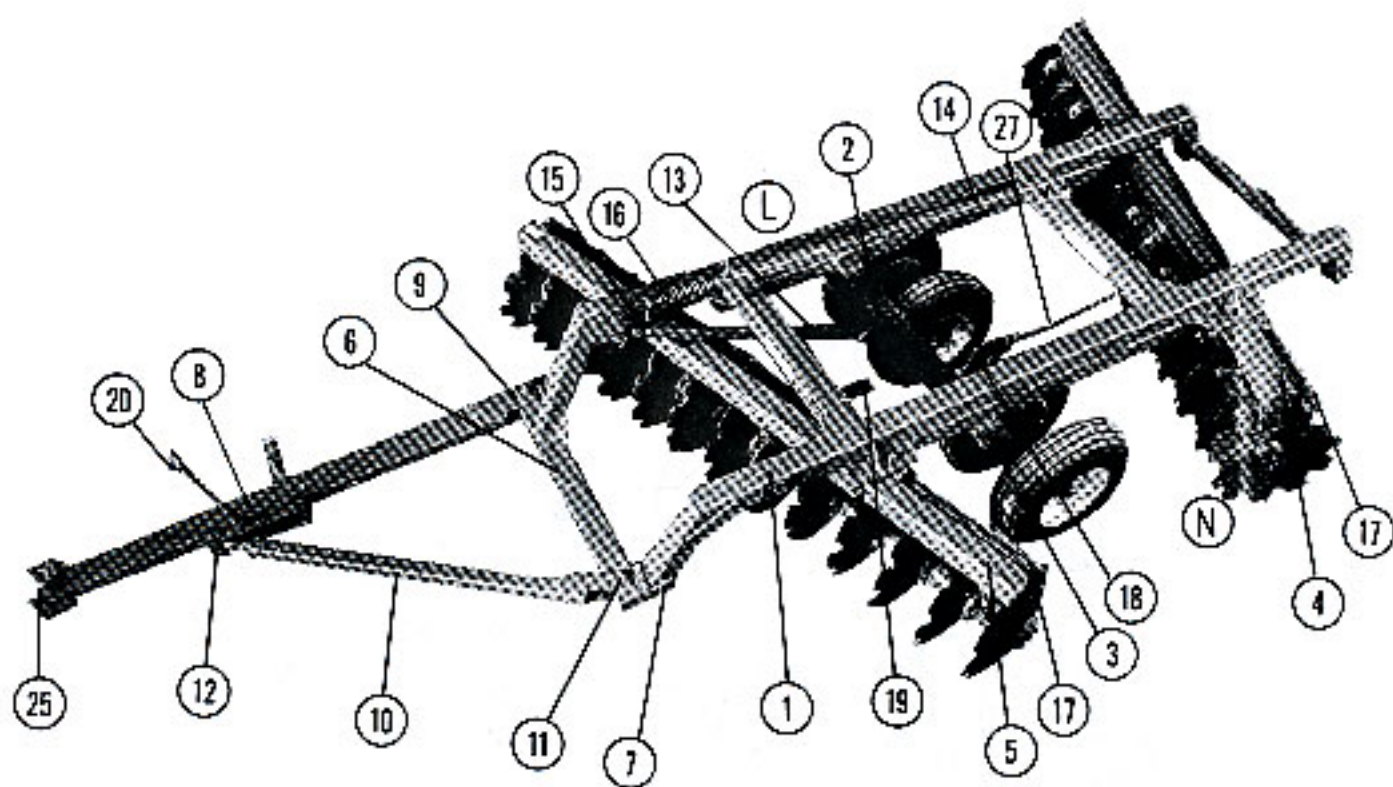

Figure 1
1. **To Install Wheel Carriage and Wheels:** (Refer to Figure 1) Place wheel carriage(2) under the main frame(1) and attach frame with pins(3). Install 5/16 x 2 lock bolts in pins and tighten lock nuts securely. Install wheels on to hubs with wheel bolts provided and tighten securely.
2. **To Attach Gang Bars to Frame:** (Refer to Figure 1) Bolt rear gang bar(4) to main frame(1) in center set of offsetting holes and in next-to-maximum angle with 3/8 x 3 1/2 bolts. Install leveling washers on top of angling plates on long side of disc(L). Install leveling washers between gang bar and angling plates on narrow side of disc(N). Bolt front gang bar(5) to main frame in next to maximum angle with 3/8 x 3 1/2 bolts. Install leveling washers same as rear gang.
3. **To Attach Hitch Bridle to Frame:** (Refer to Figure 1) Place bridle(8) at front of frame(1) and attach with pins(7). Install lock bolts and tighten nuts securely.
4. **To Attach Hitch Pole to Bridle:** (Refer to Figure 1) Attach main hitch pole(9) to bridle(8) at lead corner(9) with 1 x 6 bolt. Attach hitch side arm(10) to opposite side of bridle(11) with 1 x 6 bolt. Join hitch pole and side arm with 1" pin at adjustable eye bolt(12). Tighten all bolts securely.
5. **To Attach Fore-Aft Leveling Assembly:** (Refer to Figure 1) Install short tube(13) to wheel carriage with 1" pin. Install long tube(14) with 1" pin. Slide short fore-aft eye bolt(15) into bottom tube(13) (pinned to wheel carriage) and pin to bottom hole of bridle mast(6). Slide long fore-aft eye bolt c/w spring and washers into top tube(14) (attached to main frame) and pin to top hole of bridle mast(6).
6. **To Attach Scrapers:** (Refer to Figure 1) Attach scraper bars(17) to gang bars (4 & 5) with carriage bolts provided. Attach scrapers to scraper bar with clamps and bolts provided use care to adjust scrapers close to discs but not rubbing.
7. **To Double Wide Right and Left Hand Offsets:** (Refer to Double Wide drawing). Set together following regular instructions except Item No. 4 - to attach hitch pole to bridle - the hitch pole is attached to the opposite side from the lead corner and the side arm is attached to the lead corner with 1 x 6 bolt. Set left hand disc(1) stationary and pull right hand disc(1) along side leaving front gang of right hand disc behind front gang of left hand disc. Attach rear spreader bar(5) with pins. Attach front spreader bar(6) with pins. Join right hand main hitch pole to left hand main hitch pole(3) with 1 1/4" pin(7). Adjust swivel flapper with 1 x 6 bolt for proper direction(8).
- 1. Hydraulic Cylinder and Hoses:** (Refer to Figure 1) A standard 8" stroke double acting hydraulic cylinder is required to lift disc. Two 18 ft. hydraulic hoses are needed to allow full offsetting and turning without hose damage.
- 2. Angle Changing:** (Refer to Figure 1) To change angle. Raise disc on wheels unit discs are clear of ground. Remove bolt(21) and loosen the three remaining bolts. Slide gang bar forward or backward as desired. Replace bolt and tighten all bolts securely. For ordinary conditions set both front and rear gangs in next to maximum angle. Increase angles as required to suit conditions.
- 4. Offsetting The Hitch:** (Refer to Figure 1) This unit is designed to trail straight behind the tractor. Minimum side draft will be obtained when the hitch is in line with outside beam of main frame. If more adjustment is required screw hitch side arm eye bolt(12) to desired position, then retighten jamb nut to reduce pressure on eye bolt thread.
- A. Front to Rear:** (Refer to Figure 1) Width disc raised and hitch to tractor, adjust bottom fore-aft eye bolt(15) until main frame is level. Adjust fore-aft spring lock(16) until spring is snug. The top spring should be under some compression when discing, but should never be compressed solidly. **NOTE:** In general use as little pressure as possible when discing.
- 6. Transporting:** (Refer to Figure 1) Disc may be transported without using hydraulic cylinder. Place the rod(27) through the hole in anchor on frame(1) and place clevis over transport block. Raise the disc until the cylinder has reached the end of its stroke. Insert pin in clevis and adjust transport rod nut until there is about $\frac{1}{8}$ " between nut and transport anchor. Release pressure on hydraulic cylinder and remove. **CAUTION:** extreme care should be taken not to collapse the cylinder too much with the transport rod in transport position.